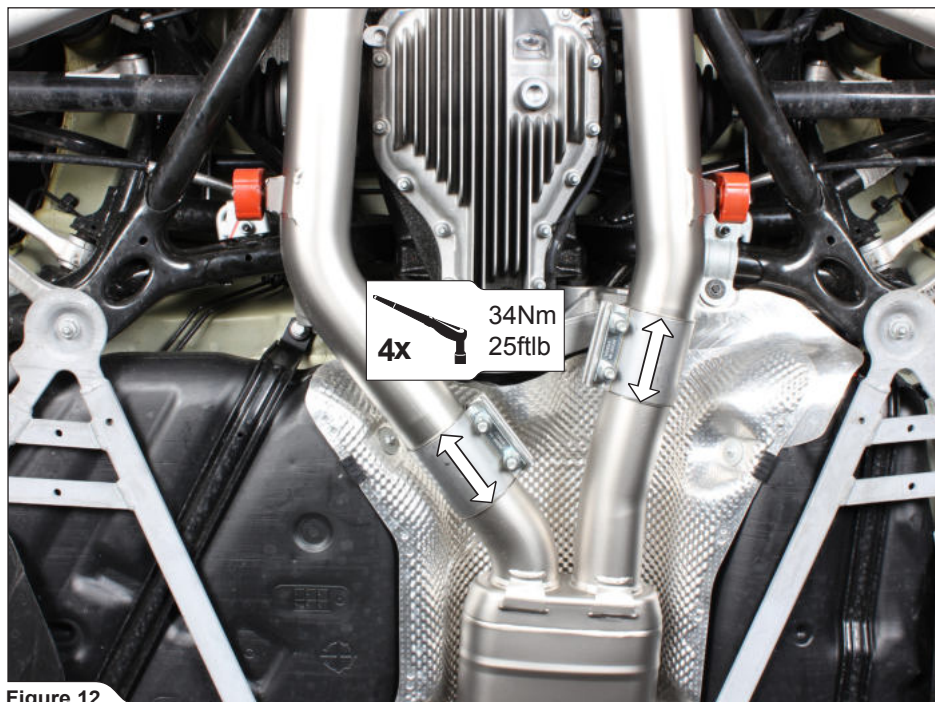

Figure 12
7. Center the double clamps in the middle of the pipe joints and tighten the clamps to the specified torque (**Figure 12**).